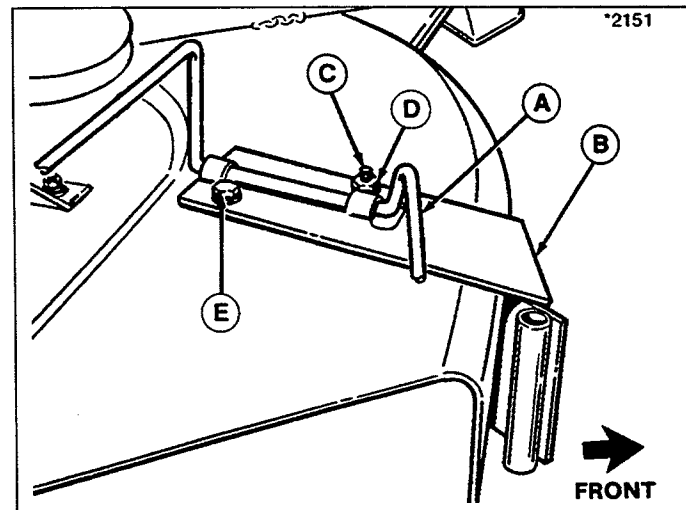
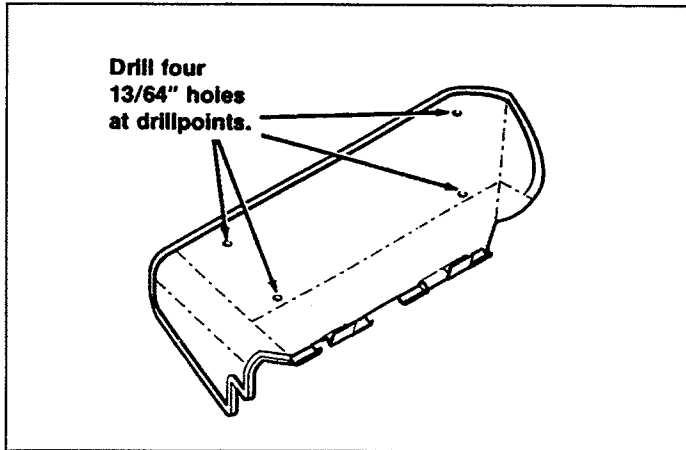

Figure 5.
Figure 6.
9. See figure 5. Install the new deflector support rod (A) underneath the pivot bracket (B) and install bracket to deck. Secure bracket with two carriage bolts (C) from underneath deck and flange locknut (D) in front hole. Use whizlock screw (E) in rear hole. Use whizlock screw (E) in rear hole.
10. See figure 6. Turn deflector over and locate the drill-points for mounting support rod (A, figure 5). Drill four 13/64" holes. Install deflector to new support and secure with screws and nuts as shown in figure 1.